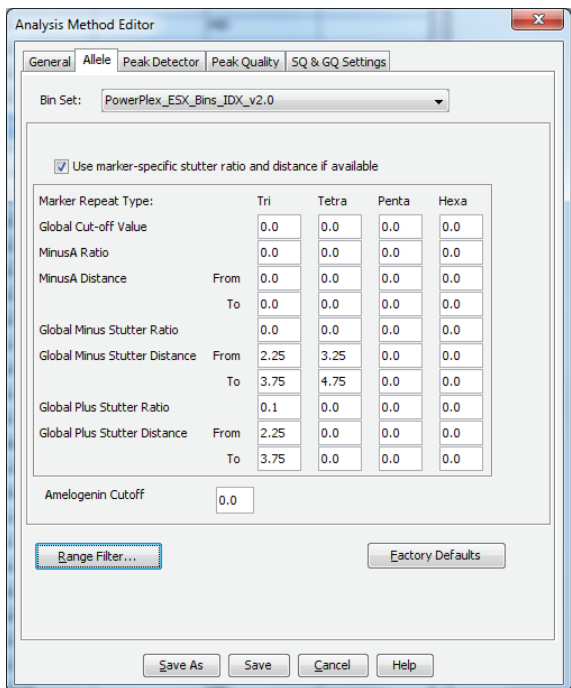

Figure 12. The GeneMapper® ID-X 'Allele' tab.
6. Select the 'Allele' tab (Figure 12).
8. Ensure that the “Use marker-specific stutter ratio and distance if available” box is checked. We recommend the values shown in Figure 12 for proper filtering of stutter peaks when using the PowerPlex® ESX 17 System. You may need to optimize these settings. In-house validation should be performed.